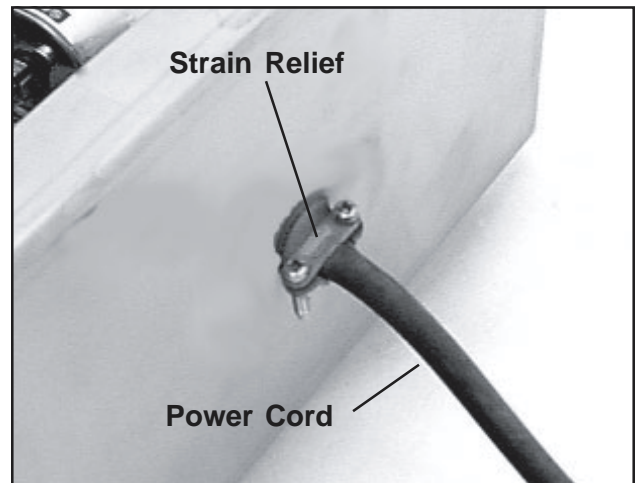

Figure 123. Power Cord Strain Relief
9. With a flat-blade or Phillips screwdriver, loosen the two screws on the strain relief (Figure 123) and pull the power cord out of the electrical box.